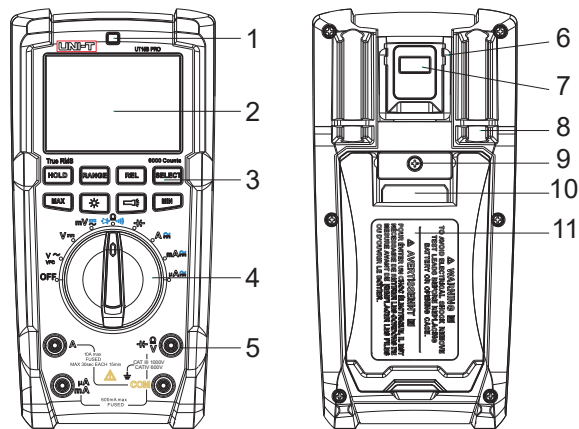

Figure 1
6. External Structure (see Figure 1)